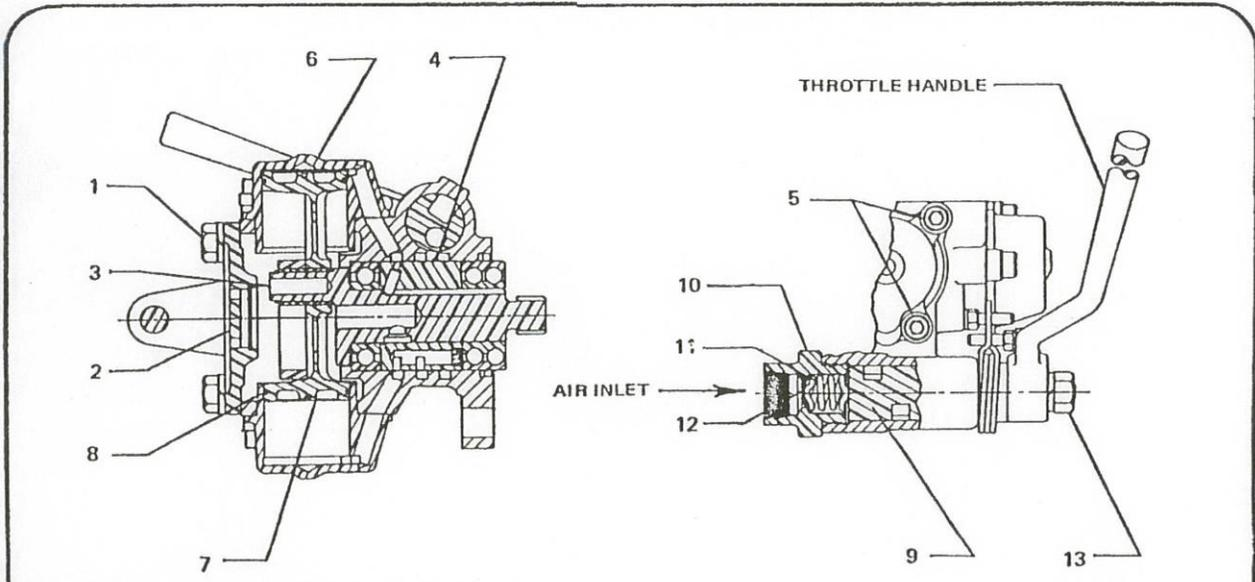

FIG. 1 PISTONAIR MOTOR SECTIONAL VIEW
Disassembling Pistonair Motor. (See Fig. 1) Remove the two nuts and lockwashers holding the motor to the winch, then pull off the air motor. Remove the four capscrews (1) and remove the cover (2). Lightly tap the end of the crankshaft (3) and remove the crankshaft and distributing valve (4). Next, take out the socket head capscrews (5) and remove each cylinder head (6). Pull the cylinder heads straight off the pistons (7) to avoid breakage of piston rings (8). Remove the yoke-type pistons through the opening for the cover (2). To remove the throttle valve (9) unscrew the inlet bushing (10). Do not lose the spring (11) and strainer (12). Take off the hex nut (13) and remove the throttle handle. Push the throttle valve (9) out through the inlet side.
Reassembling Pistonair Motor. (See Fig. 1) Extreme care should be taken to see that ring grooves, pistons, and cylinder heads are perfectly clean. Use care in replacing piston rings (8) — they are brittle and can be easily broken. Replace the pistons (7) in the housing; the pistons are interchangeable and can be placed only one way in the housing. Avoid canting the cylinder heads (6) when replacing; push them squarely over the pistons. Tighten
Important: Do not use the reference numbers on Fig. 1, 2, and 3 when ordering parts. They are used only as a reference in describing the instructions given and bear no relation to the actual part numbers. Consult the parts list section of this catalog for part numbers.